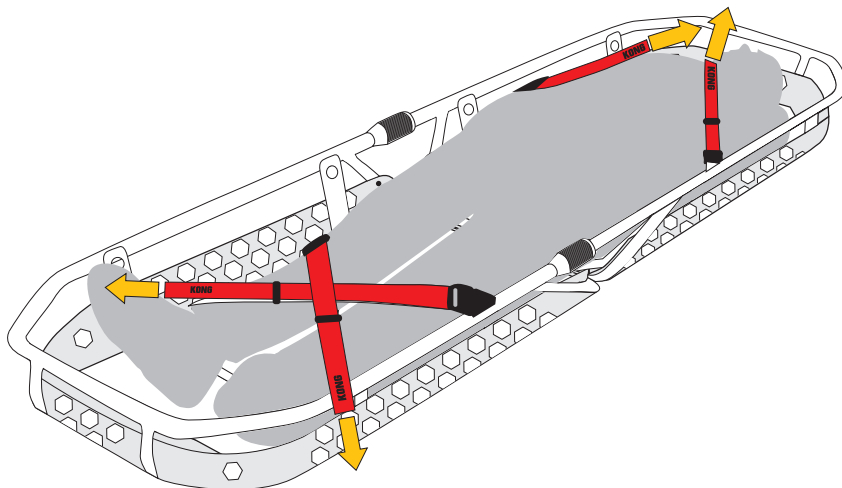

Fig.10
- b) lay the patient in the stretcher, hook on the buckles and tension the straps until they secure the patient (fig. 10).